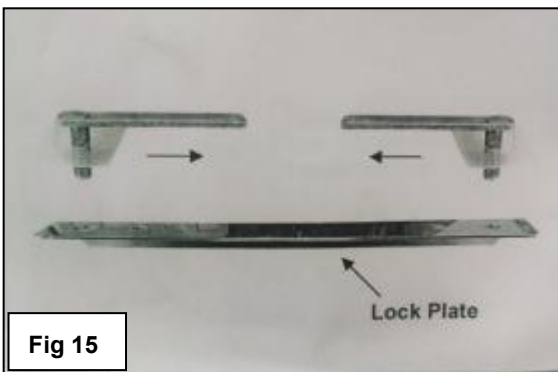

Fig 15
12	<p>Locate the last (2) round holes along the floor panel, (Figure 14B). Repeat Steps 2-5 to install the (2) Bolt Plates and Lock Plate, (Figures 15 & 16). NOTE: Attach the Lock Plate to the front Bolt Plate only with (1) M10 Flat Washer, (1) M10 Lock Washer and (1) M10 Hex Nut, (Figure 16). Tighten the Hex Nut at this time.</p>